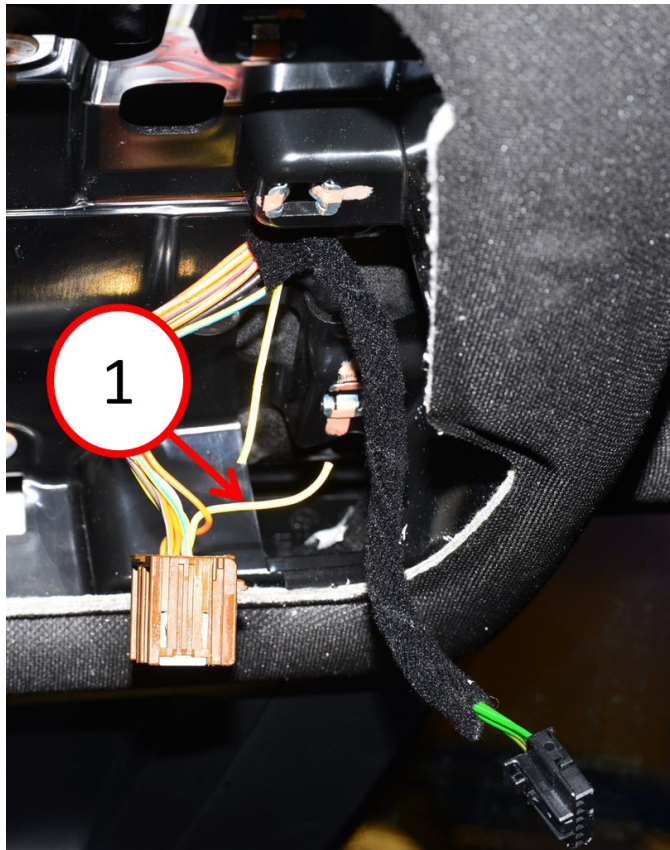

Fig. 2
9. Cut the dome lamp wire harness yellow/white wire (pin 6) Fig. 2.